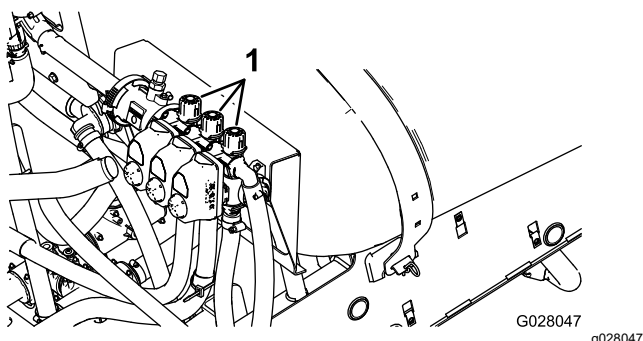

Figure 20
- Turn off the left section and adjust the section-bypass knob (Figure 20) until the pressure reading is at the previously adjusted level (typically 2.75 bar or 40 psi).
- Adjust the right section-bypass knob (Figure 20) until the pressure reading is at the previously adjusted level (typically 2.75 bar or 40 psi).
- Adjust the center section-bypass knob (Figure 20) until the pressure reading is at the previously adjusted level (typically 2.75 bar or 40 psi).